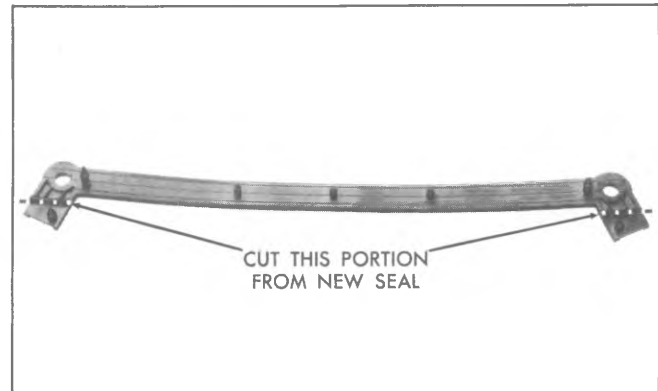

Fig. 6A2-39--Oil Pan Front Seal Modification
5. Using a sharp knife or other suitable cutting tool, cut oil pan front seal flush with cylinder block at both sides of cover (fig. 6A2-38).